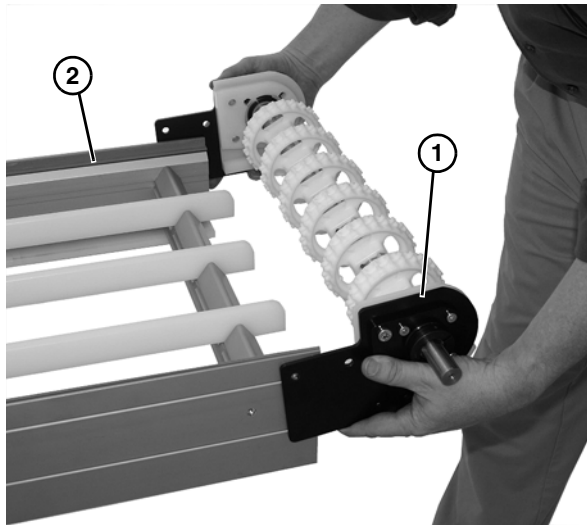

Figure 32
3. Remove the drive tail assembly (Figure 32, item 1) from the frame (Figure 32, item 2).